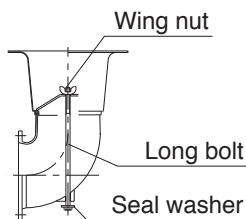

Fig.5
- Place the seal washer on the long bolt, then insert the long applicable bolt^{*1} which is shipped with the unit from the bottom of the elbow (see Fig.5).